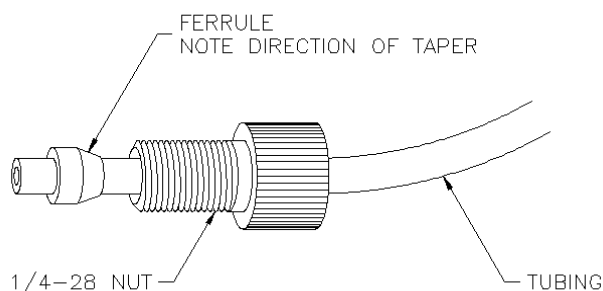

Figure 5. Configuration of 1/4-28 Nut, Ferrule and Tubing.
- For the connection of the 1/8" FEP tubing to the degasser ports use the OR100/OR110 nut and ferrule (p/n 250.1550 and 250.1552). See figure 5 .